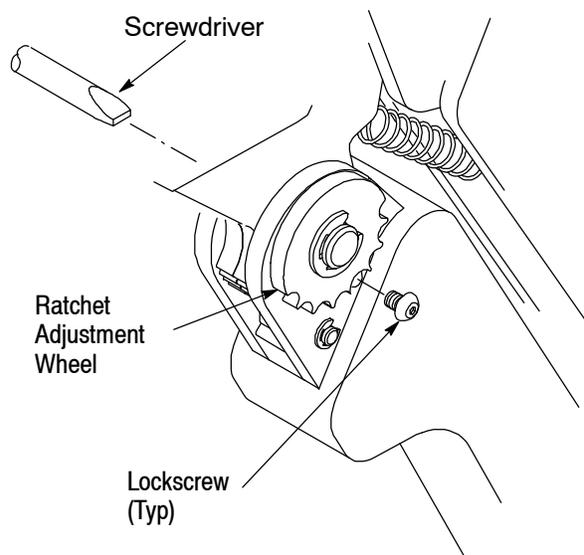

Figure 5
7. RATCHET (Crimp Height) Adjustment (Figure 5)